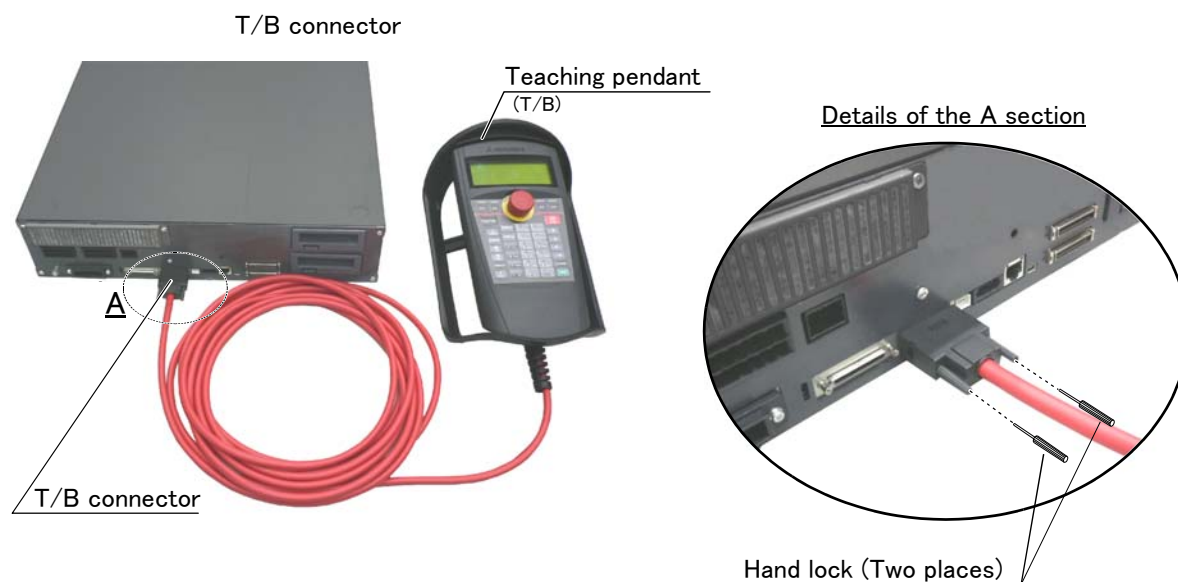

Fig. 2-9 : Installing and removing the T/B (CR751)
- 2) Connect the T/B connector to the controller's T/B connector. Make sure to fix it securely by fastening the hand locks (in 2 places), as shown in Fig. 2-9.